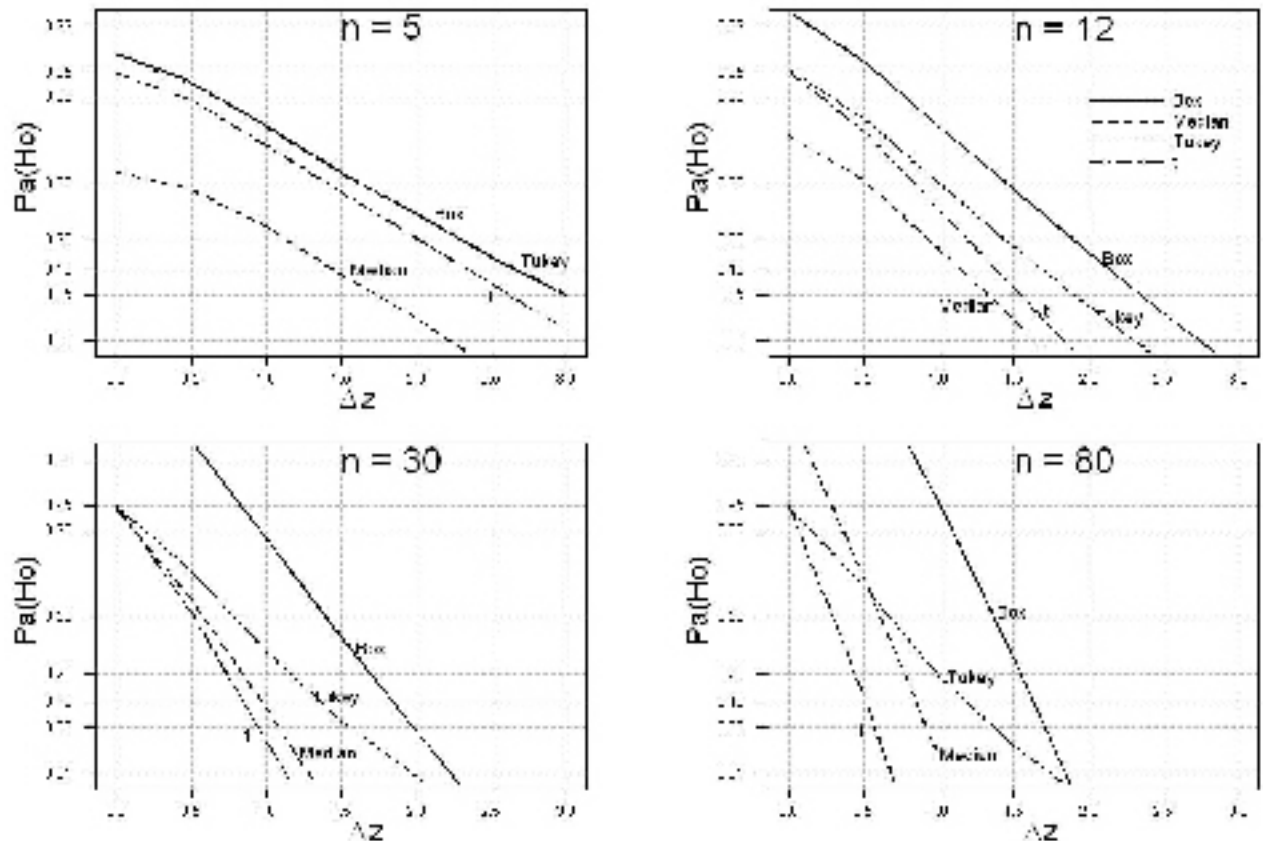

FIGURE 3.2. Operating characteristic curves for two-sample tests for location.
14. A MINITAB macro similar to the one created in Problem 3.12 was written to compare the performance of the two-sample  $t$  test, Tukey's quick test, and the two boxplot slippage tests. The macro considered 10,000 pairs of normal homoscedastic samples of size  $n = 5, 12, 30,$  and  $80$  with increasing differences between the two population means. The resulting approximate OC curves are shown in Figure 3.2. The OC curves labeled Box and Median correspond to the first and second boxplot slippage tests, respectively, and the horizontal scale ( $\Delta z$ ) indicates the difference between the two population means in standard deviation units. That is,  $\Delta z = 1$  corresponds to  $|\mu_1 - \mu_2| = 1\sigma_x$ .